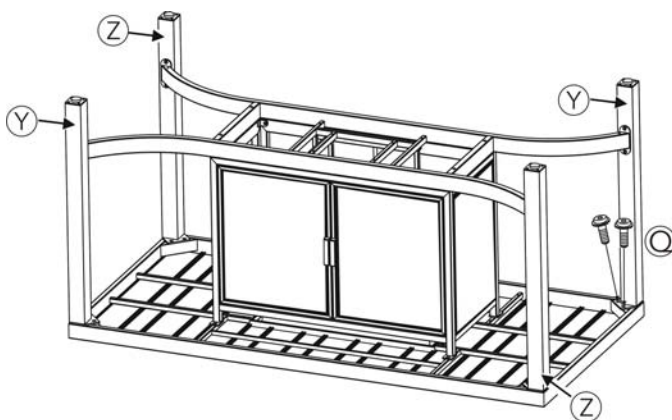
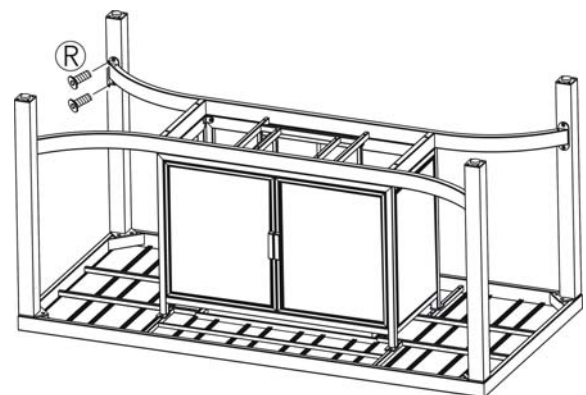

Figure 7a
Figure 7b
7. Attach a table leg to the table top by using two 1/4"x20 mm bolts as shown in Figure 7a. Hand tighten only 2-3 turns. Attach the table leg to the LP support frame by using two 1/4"x20 mm bolts as shown in Figure 7b. Hand tighten only 2-3 turns. Repeat for the other table legs.